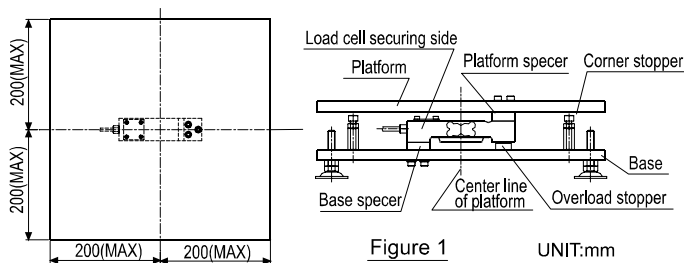

Figure 1 UNIT: mm
- (1) The tare and the platform should be as light as possible to prolong the service life and excellent performance of the load cell.
- (2) Insert a spacer with 10 mm or greater between the load cell and the platform.
- (3) Use a platform fixture with high rigidity. The mounting surface for the load cell and the spacer requires a surface finish of 100S (JIS) or more.
- (4) Use hexagon socket head bolts (tensile strength Class 10.9-JIS or over) or high-tension hexagon head bolts (tensile strength Class 10.9-JIS or over) to attach the platform fixture to the load cell. Table 1 shows the applicable clamping torque. Avoid using ordinary bolts (of low tensile strength) available on the market.
- (5) Make sure that the attaching surface is clean and free from foreign matter. Tighten the bolts while using much care not to apply unnecessary force (torsion or lateral load) to the load cell.
- (6) For the allowable dimensions of the platform, see Figure 1. Also, when designing a platform, see the "OVERLOAD PRECAUTIONS" on the next page.